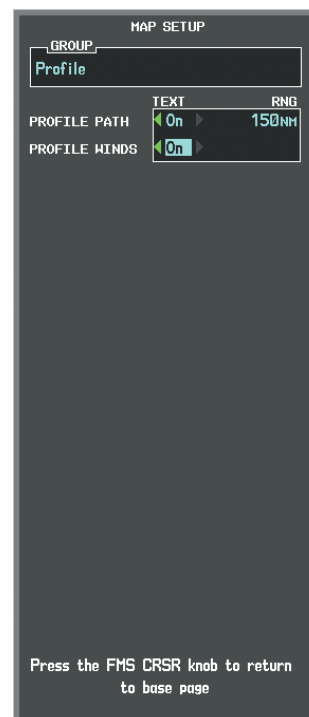

Figure 6-84 Navigation Map Page Setup Menu, Weather Group
- 5) Turn the large **FMS** Knob to select 'Profile Winds' (Figure 6-84).